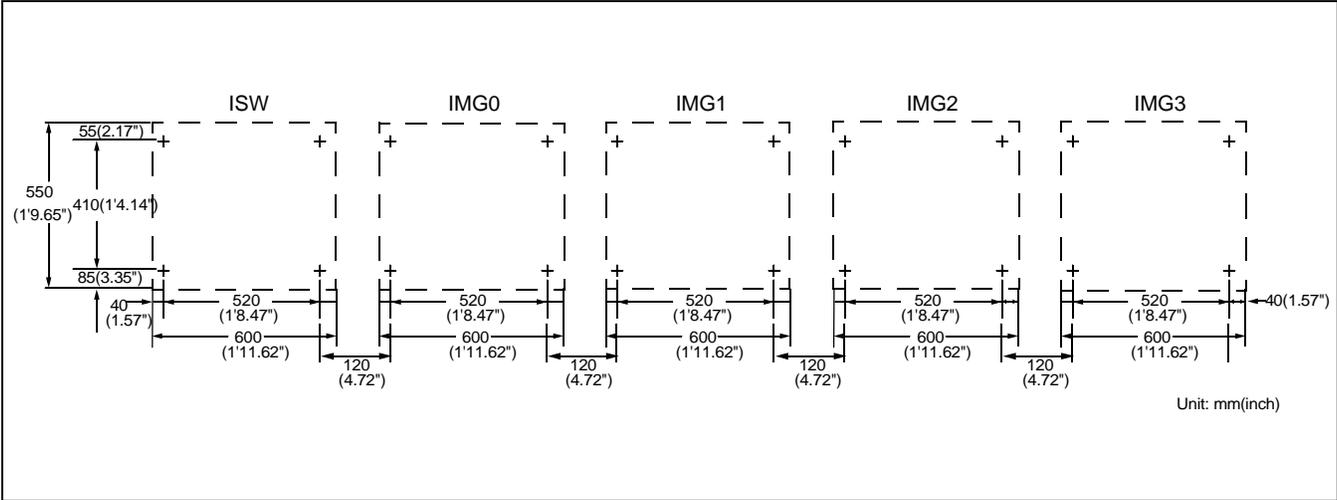

Figure 002-1 Locations of Base Unit Securing Holes
- Marking _____ Mark the locations of the anchor bolt holes for the Base Unit. (See Figure 002-1.)